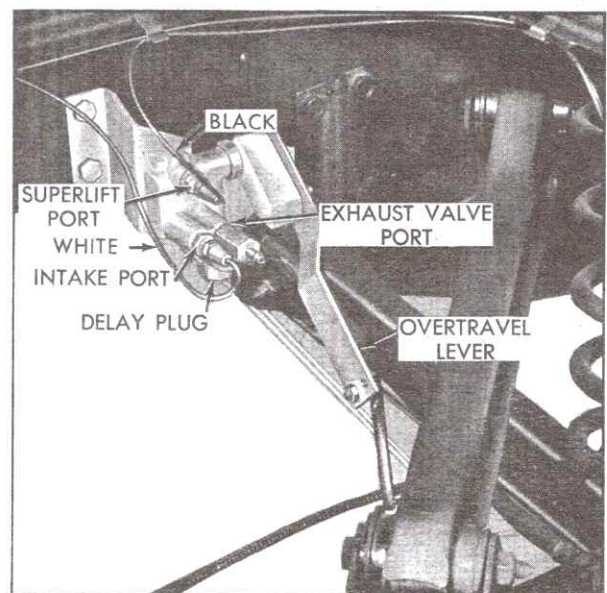

Fig. 4-14 Height Control Valve
2. Remove Superlift line at control valve, Fig. 4-14.
3. Connect air lines, white at control valve intake and black at Superlift port, Fig. 4-14, assembling tubing as described in Note 9.